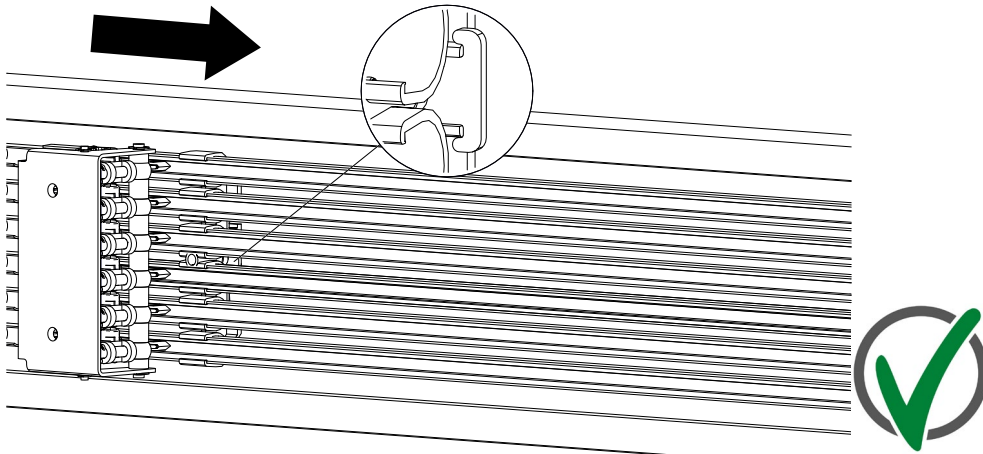

Fig. 52: Insert is mounted in the travel direction of the current collector
For systems that are operated in towing mode, Conductix-Wampller recommends mounting the insert (1) in the preferred direction of travel of the current collector (see Fig. 52)!